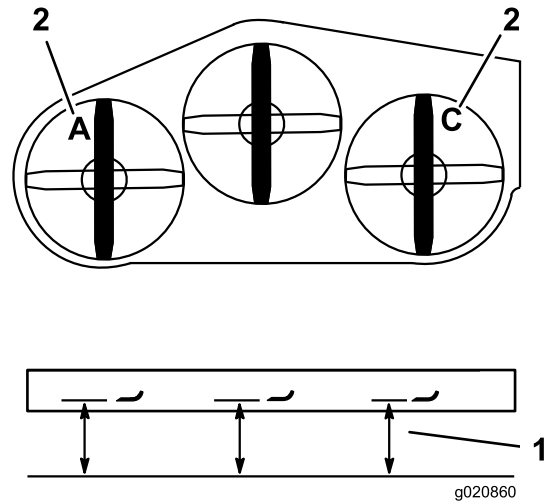

Figure 86
3. Measure the left blade at the **A** location, from a level surface to the cutting edge of the blade tip, and record this measurement (Figure 86).
4. Measure the right blade at the **C** location, from a level surface to the cutting edge of the blade tip, and record this measurement (Figure 86).
3. Measure the right blade at location **C**, from a level surface to the cutting edge of the blade tip, and record this measurement (Figure 86).